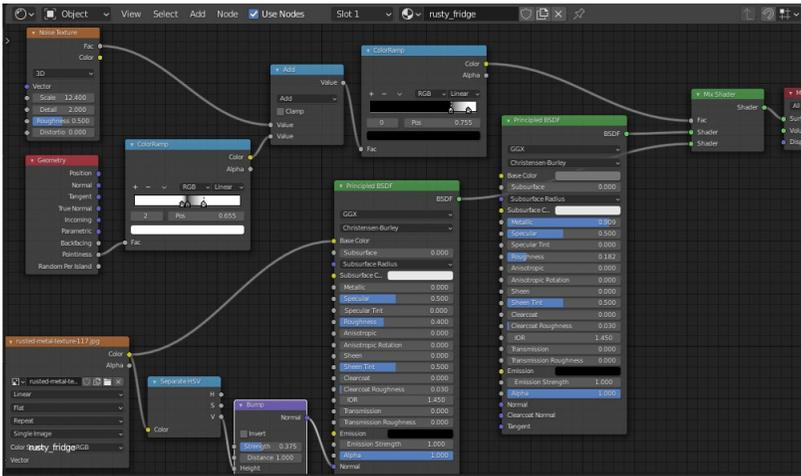

Figure 4-3 Full node tree for the rusty_fridge Material
If you add the mix shader first you can “drop” it onto the pipe connecting your existing shader to the Material Output node, and this will automatically rearrange the nodes for you. Make sure, when you add the second Principled BSDF Shader that you land in a space not overlapping any existing pipes, then connect its output to the first input of the Mix Shader. You will see that the connection from the first Shader automatically swaps over to the second input. The three shaders are the nodes with green tops on the right of Figure 4-3
Figure 4-3 shows the full layout of the nodes so you could use that to position elements as you add them to save constantly moving things round. But I advise you to add the components one by one, following the steps below, so you see the effect of each - and the potential pitfalls.
16. You need to add a color ramp node then move the stops so that all of the variation in output take place over a narrow band of input near to 0.5. You want the output to be maximum either side and only drop to 0.0 where the vertices are flat. Select **Add ▸ Converter ▸ ColorRamp** and drop the node onto the pipe coming out of the Geometry node, use the + button to add a third stop then slide the stops so one is on **0.5** and the others are on either side, then change the colors using the color picker at the bottom of the node so the sequence is white, black, white, as you can just about make out in Figure 4-3.